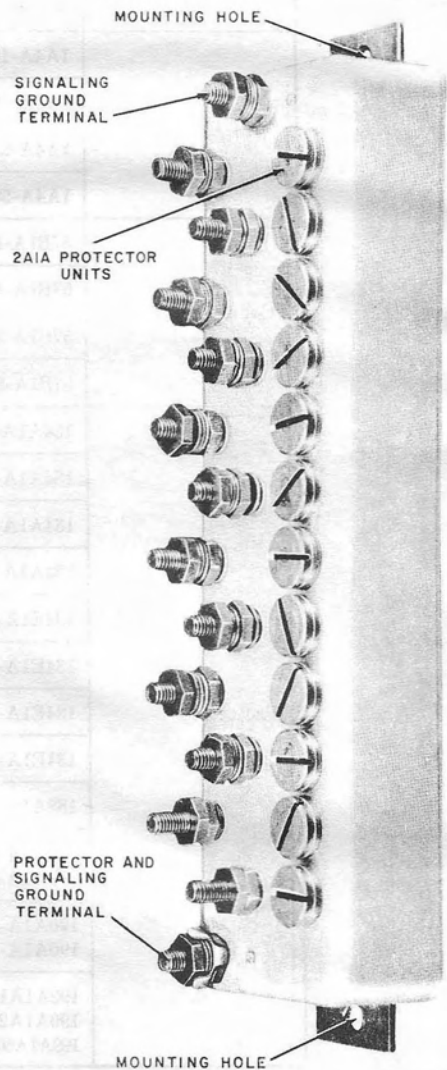

Fig. 9—117B Protector
3.14 The 117B protector (Fig. 9) should be grounded with a No. 10 ground wire (Table B). The 117B protector is designed for indoor use and generally used with 6-pair multiple aerial service wire.